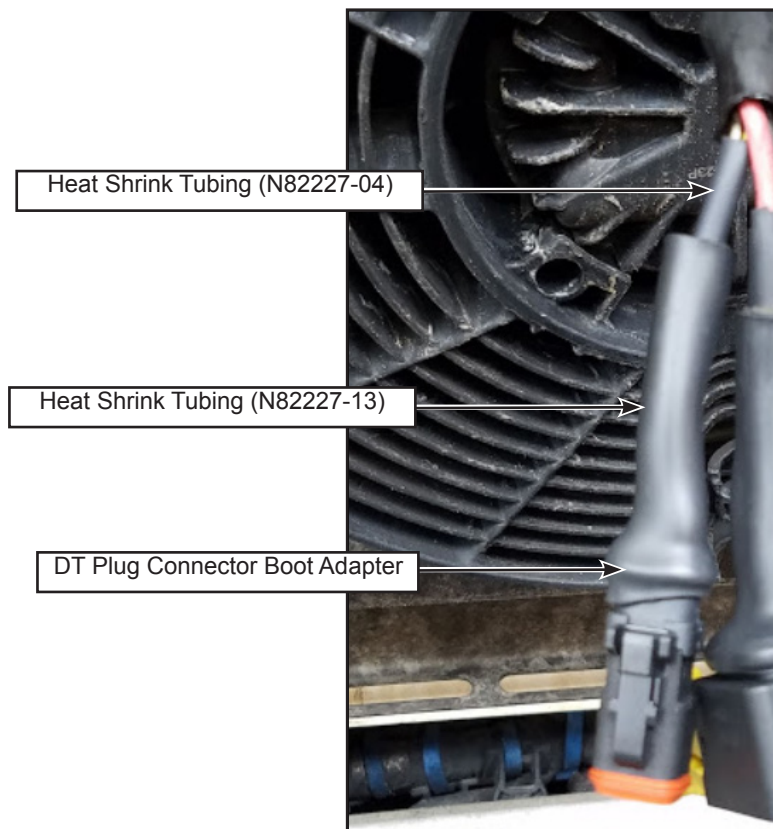

Figure 13 - Heat Shrink Tubing Installation on DT Plug Connector Wiring at Fan Side
- 1.23. Using a heat gun, apply the large heat shrink tubing PN N82227-13 starting from the boot adapter of DT plug connector finishing directly over the smaller heat shrink tube previously installed on the paired control wires (see figure 13). Make sure to fill any gap with the inner adhesive liner glue (do not apply heat shrink tubing over tape or loom).